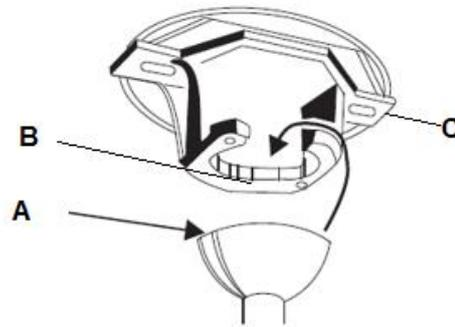

Fig. 6
Lift the fan assembly onto the mounting bracket. Ensure the key slot (A) of the hanger ball is positioned on the key pin (B) of the mounting bracket (C) to prevent the fan from rotating when in operation. (Fig.6)
- Hang the fan (Refer to “hanging the fan” Fig. 6, page 6).